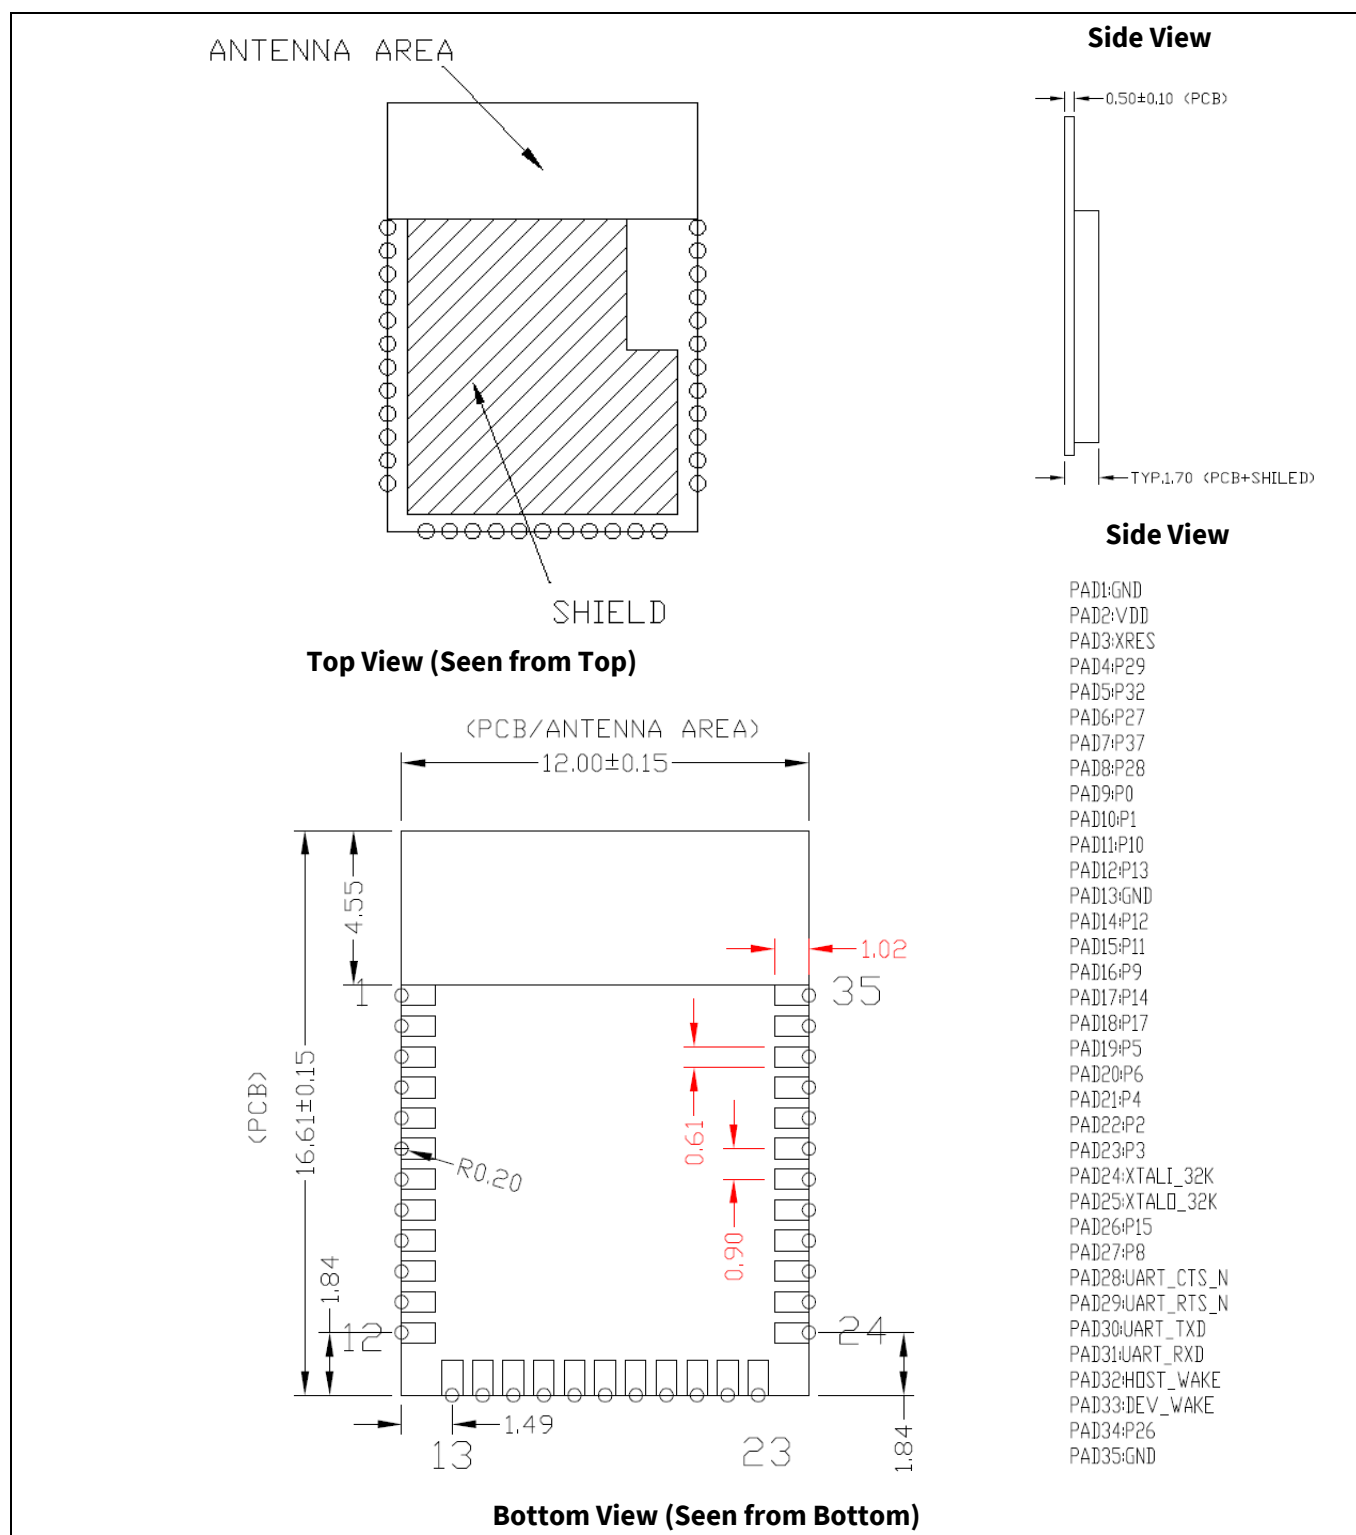
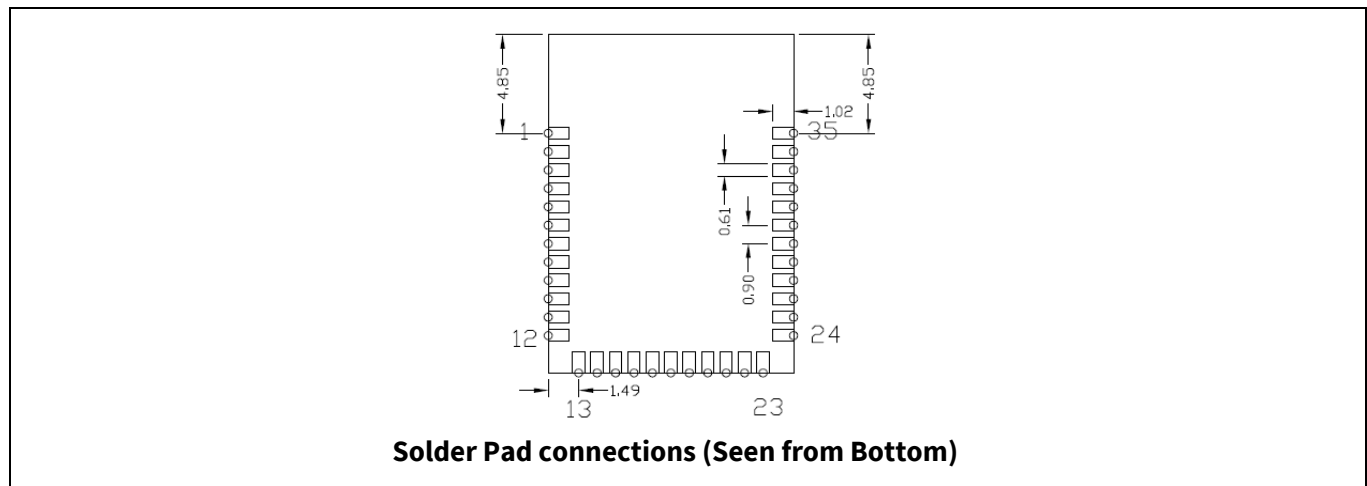
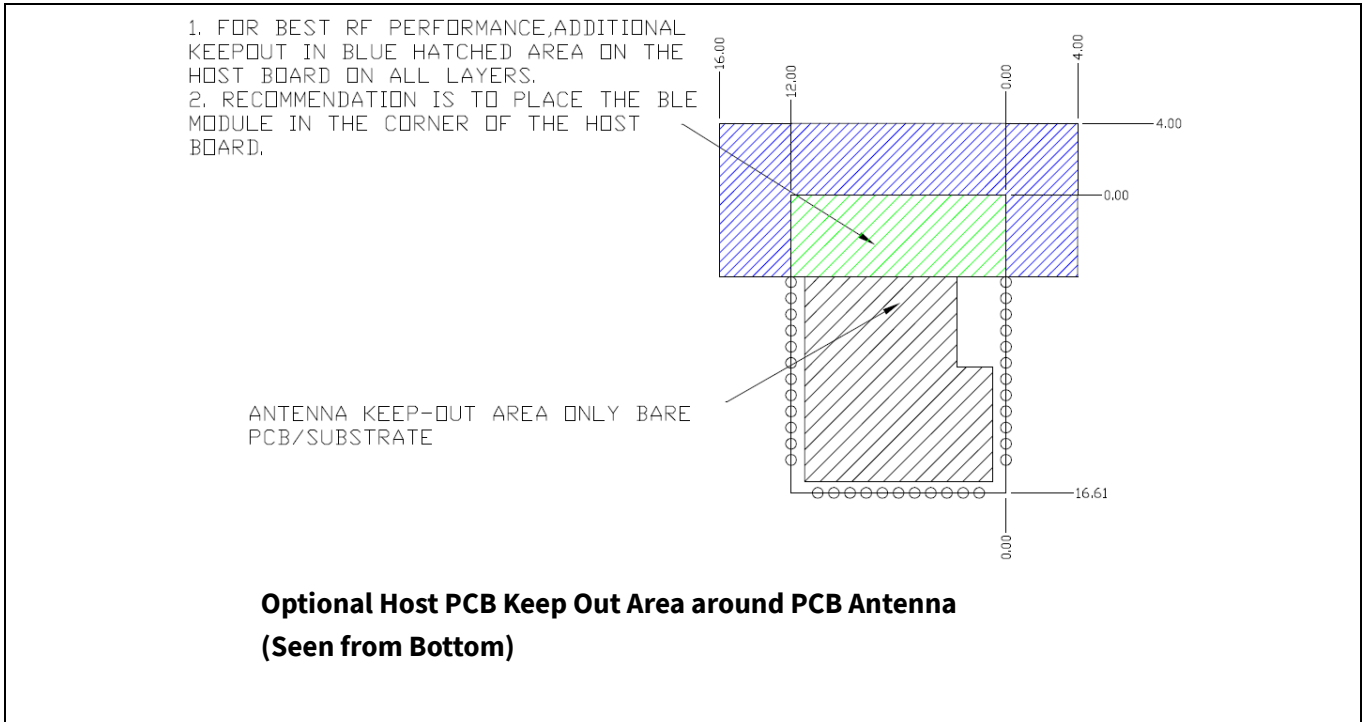

Figure 2 Module mechanical drawing
Figure 3 Solder Pad dimensions (Seen from Bottom)
Figure 4 **Optional Additional Host PCB Keep Out Area around the CYBT-243053-02 PCB Antenna**
Infineon reserves the right to select components from various vendors to achieve the Bluetooth® module functionality. Such selections will still guarantee that all mechanical specifications and module certifications are maintained. The CYBT-243053-02 will be held within the physical dimensions shown in the mechanical drawings in Figure 2. All dimensions are in millimeters (mm).
See Figure 2 for the mechanical reference drawing for CYBT-243053-02.
As shown in the bottom view of Figure 2, the CYBT-243053-02 has 35 connections to a host board via solder pads (SP). Table 2 and Figure 3 detail the solder pad length, width, and pitch dimensions of the CYBT-243053-02 module.
1. **Antenna Area Keepout:** The host board directly below the antenna area of the Infineon module (see Figure 2) must contain no ground or signal traces. This keep out area requirement applies to all layers of the host board.
2. **Module Placement:** The ideal placement of the Infineon Bluetooth® module is in a corner of the host board with the PCB antenna located at the far corner. This placement minimizes the additional recommended keep out area stated in item 3 below. Refer to AN96841 for module placement best practices.
3. **Optional Keepout:** To maximize RF performance, the area immediately around the Infineon Bluetooth® module PCB antenna may contain an additional keep out area, where there are no grounding or signal traces. The keep out area applies to all layers of the host board. The recommended dimensions of the host PCB keep out area are shown in Figure 4 (dimensions are in mm).